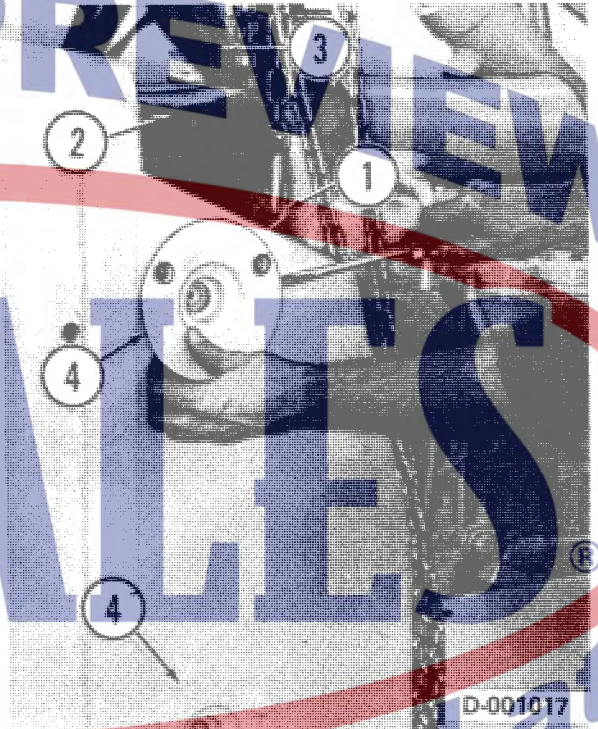

FIG. 6 — Mounting Bracket Removal
7. Attach two lifting adapters (1, Fig. 6) to the radiator (2). Connect the adapters to a hoist with a lifting sling (3).
8. Remove the four mounting brackets (4) by prying them free of the rubber mountings. It is not necessary to remove the rubber mountings from the radiator.